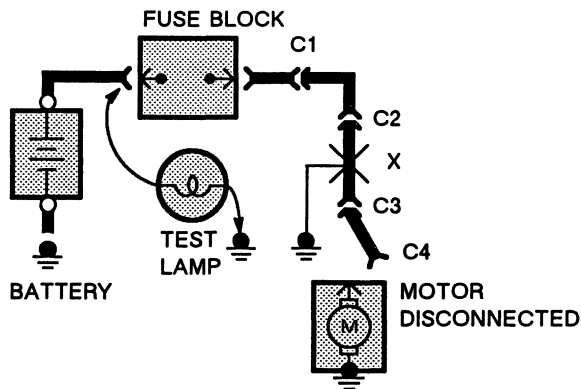

Figure 5—Short Check
- Motors: disconnect motor connector (Connector C4 in Figure 5).
5. Disconnect the test lamp lead that is connected to ground, and reconnect it to the load side of the fuse at the connector of the disconnected component. (In Figure 5, connect the test lamp lead to connector C4.)
- If the Test Lamp goes on, the short is in the wiring. You must find the short by disconnecting the circuit connectors, one at a time, until the Test Lamp goes out. For example, in Figure 5 with a ground at X, the bulb goes out when C1 or C2 is disconnected, but after disconnecting C3. This means the short is between C2 and C3.